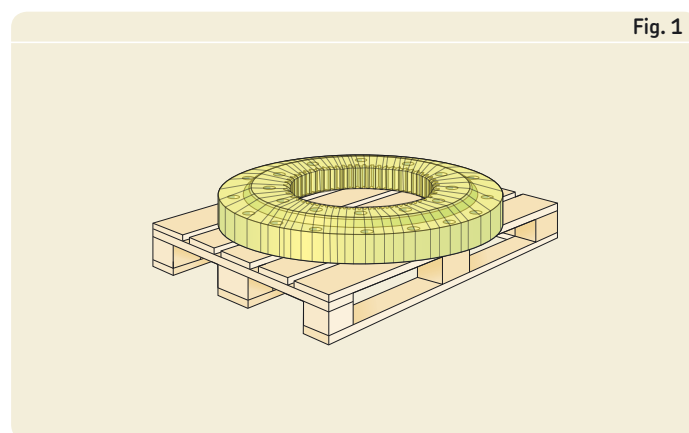
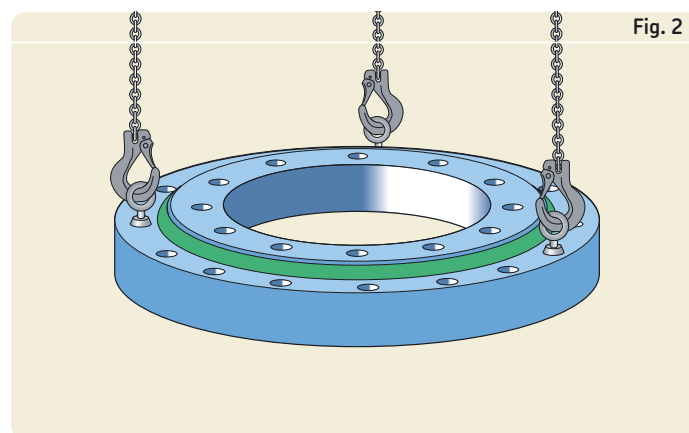

Fig. 1
Fig. 2
Slewing bearings should be transported and stored flat on a surface that extends over the whole side face of the bearing (→ **fig. 1**). When the bearing is to be moved or held in position, appropriate lifting tackle should be used (→ **fig. 2**). Eyebolts, for example, should only be subjected to a load in the direction of the shank axis. Also, keep in mind when using
- 1 Remove any burrs on the seat surfaces with emery cloth or a honing tool (→ **fig. 1**).
- 2 Clean the seat surfaces with compressed air. Make sure that the surfaces of the support structure and the bearing are clean and dry (→ **fig. 2**).